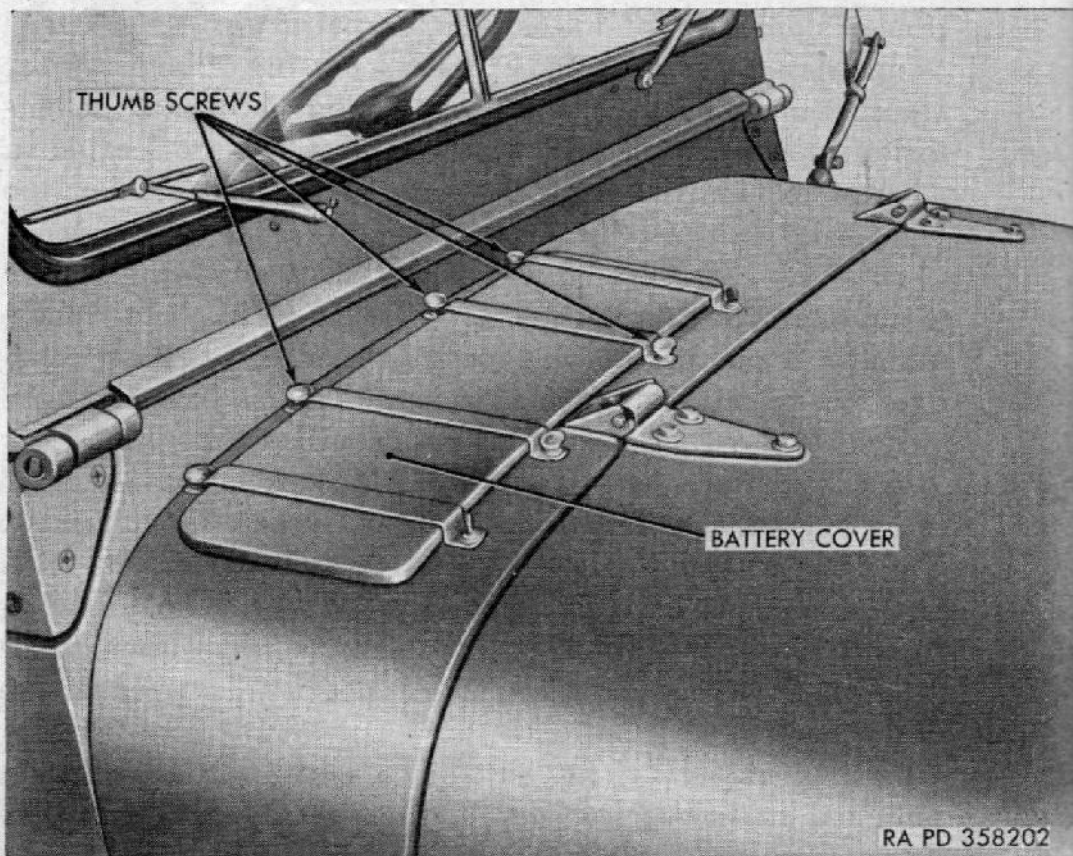

Figure 77. Batteries location.
prevents entrance of water into the battery cells. Battery terminals are waterproofed by a thick coating of grease, after installation. Waterproof cables are used to connect the batteries to the starter. The batteries (fig. 77) are located in a battery compartment just forward of the windshield on the right side of the vehicle.
*c. Removal.* Remove eight thumb screws securing battery cover (fig. 77) to top of cowl and lift off cover. Loosen bolt securing battery ground terminals (fig. 78) to negative battery post of right battery and position battery ground cable so it cannot accidentally strike the battery post. Loosen bolts securing battery connector cable to positive post of right battery and negative post of left battery and lift battery connector cable, with battery terminals attached, off battery posts. Loosen bolt securing battery terminal to positive terminal of battery posts. Remove the two wing nuts, lock washers, and flat washers securing each battery hold-down in position and remove battery hold-downs. Lift batteries from battery compartment.
- (2) *Installation.* Install battery cable through opening in battery compartment and connect to starter switch terminal (fig. 65) with terminal nut and flat washer. Connect other end of battery cable to battery terminal on positive battery post of left battery and secure with terminal nut. Install battery ground cable (fig. 69) through opening in battery compartment and connect one end to ground terminal on generator regulator base with flat washer and nut. Connect other end of battery ground cable to battery ground terminal on negative post of right battery and secure with terminal nut. Install battery cover (fig. 77) and secure with eight thumb screws.